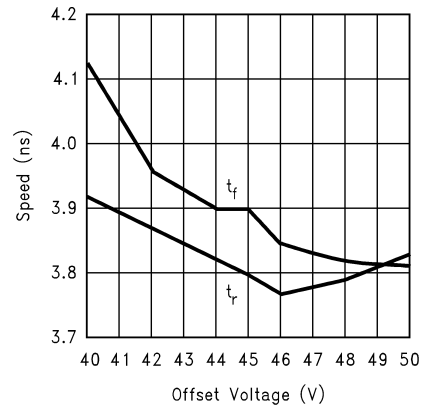

FIGURE 7. Speed vs Offset
*Figure 7* shows the variation in rise and fall times when the output offset of the device is varied from 40 to 50  $V_{DC}$ . The rise time shows a maximum variation relative to the center data point (45  $V_{DC}$ ) of 4%. The fall time shows a variation of less than 6% relative to the center data point.